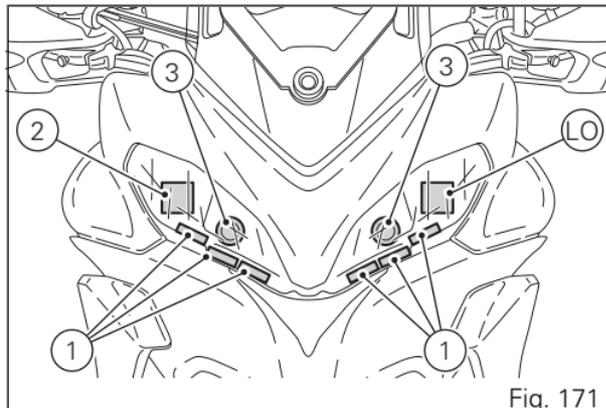

Fig. 171
(Fig. 171) shows the locations of the parking light LED unit (1), low beam LED unit (2) and high beam lights (3).